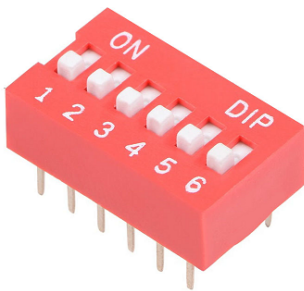

Figure 23
This allows your gate operator circuit board in the bottom, turn Dip Switch #2 to the ON position. Figure 23
1. On your gate operator circuit board in the bottom, turn Dip Switch #2 to the ON position. Figure 23